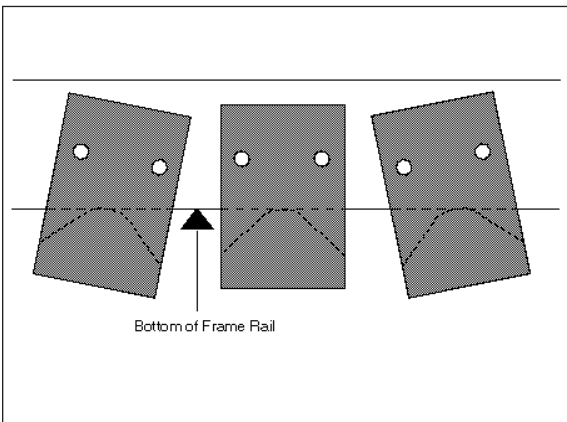
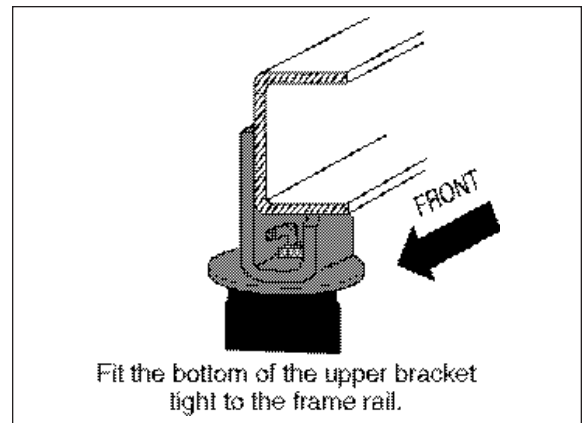

Figure 3
Figure 4
2. Thread the attached air fitting through the bottom of the J-bracket. Position the elbow towards the front or rear of vehicle depending on which direction will allow easier access for the air line (Figures 1 and 2). Slide the provided nylon nut over the air fitting and onto the threaded post. Tighten the nylon nut hand tight to secure the bracket (Figure 4).
5. To install the upper bracket, lower the axle or raise the frame until the upper bracket is in line with the lower and on the same angle as the leaf spring. The lower mounting surface of the upper bracket must be parallel to the mounting surface of the lower bracket and the sleeve should be straight when installed between the brackets. The upper bracket is designed so that it can be tilted for the proper angle (Figure 3). The bottom of the upper bracket must fit tight to the bottom of the frame rail (Figure 4). Using the bracket as a template, center punch and drill three 5/16" holes. The holes must be no larger than 5/16". Attach the upper bracket using the Self-Tapping Frame Bolts and tighten securely (Figure 1). **DO NOT OVERTIGHTEN.**